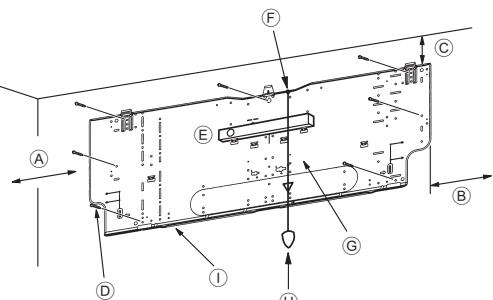
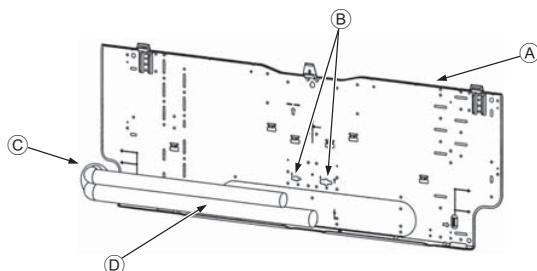

Fig. 3-4
Fig. 3-5
■ PKFY-P-VKM-E (Fig. 3-4)
- (A) Min. 90 mm (617.6 mm or greater with optional drain pump installation)
- (B) Min. 200 mm
- (C) Min. 70 mm (130 mm or greater with left, rear left, or lower left piping, and optional drain pump installation)
- (D) Fixing screws (4 x 25) ②
- (E) Level
- (F) Fasten a thread to the hole.
- (G) Place the level against the horizontal reference line of the mount board and mount so that it is level. Hang a weight from the thread and align with ▽ EPK of the mount board to permit leveling.
- (H) Weight
- (I) Mount board ①
3.3. When embedding pipes into the wall (Fig. 3-5)
- (A) Mount board ①